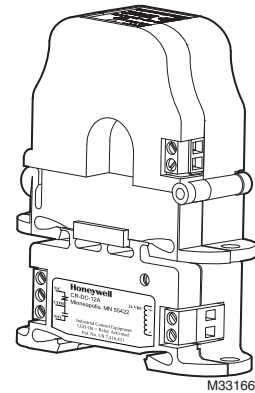
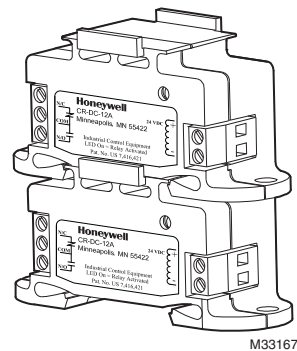

Fig. 4. Switches and sensors snapped to the command relay.
Fig. 5. Multiple command relays snapped on top of each other.
2. The Honeywell current switches and sensors may be snapped directly on to the top of the command relays (see Fig. 4) or multiple command relays may be snapped directly on to the top of each other (see Fig. 5).